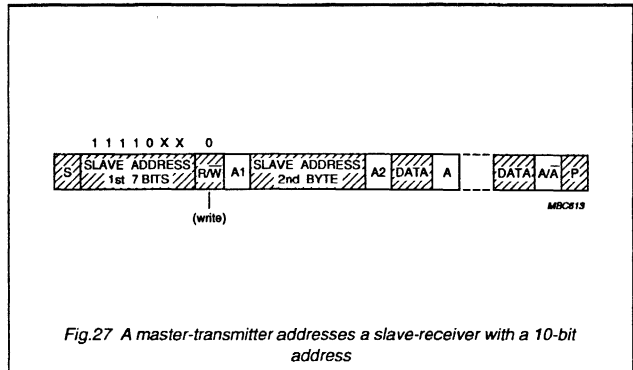

Fig.27 A master-transmitter addresses a slave-receiver with a 10-bit address
- **Master-transmitter transmits to slave-receiver with a 10-bit slave address. The transfer direction is not changed (Fig.27).** When a 10-bit address follows a START condition, each slave compares the first 7 bits of the first byte of the slave address (11110XX) with its own address and tests if the eighth bit (R/W direction bit) is 0. It is possible that more than one device will find a match and generate an acknowledge (A1). All slaves that found a match will compare the 8 bits of the second byte of the slave address (XXXXXXXX) with their